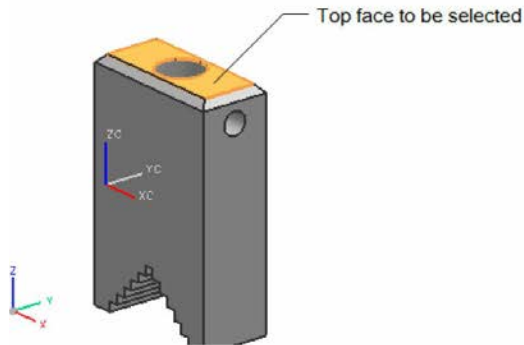
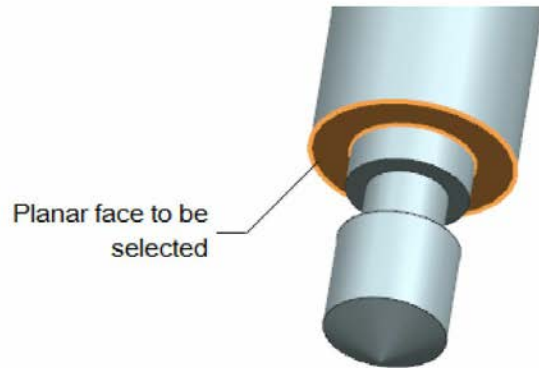

Figure 8-60 Top face to be selected from the Movable Jaw
Figure 8-61 Planar face to be selected from the Screw
7. Select the top face of the Movable Jaw as the first object, refer to Figure 8-60 and select the planar face from the Screw as the second object, refer to Figure 8-61.